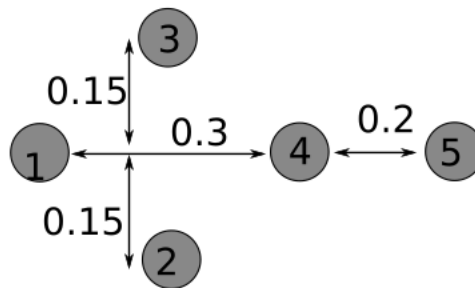

Figure 2. Desired positions in robot formation
23. (I,5): Consider the previous formation of four robots. Now we will add a fifth robot in the formation. The desired position of this robot in the formation is indicated in *Figure 2* below. Make the necessary modifications (in the world and in the code) in order to achieve the desired formation behavior.
Considering five holonomic agents, the goal is to design a graph-based control algorithm which leads them to the topological formation shown in Figure 2.
35. (B,7): Add three more edges to the graph in Figure 2. Compute the “*Incidence*” matrix of the new graph. Modify the “I” matrix in the code and run the script. Is the achieved final formation topology different? Is the convergence faster than before? What do you conclude?